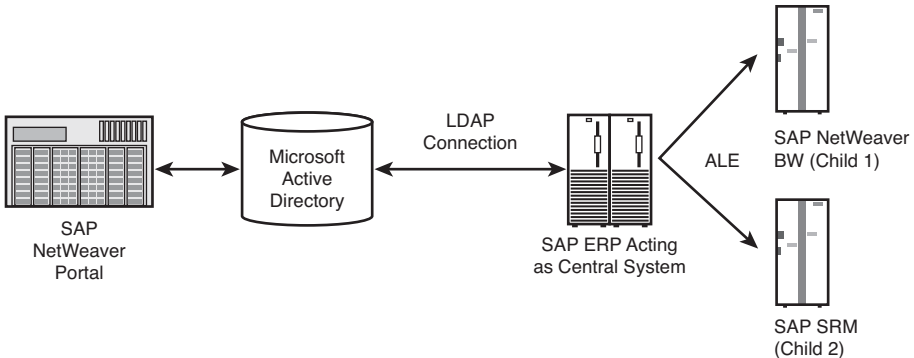

FIGURE 31.3 UME and CUA concepts may be combined to reduce redundant administration tasks.
Now that we have reviewed the UME and CUA, let's take a look at an example that utilizes both concepts. Figure 31.3 depicts a combined scenario for a Microsoft environment running multiple SAP products. The SAP Enterprise Portal UME is using Microsoft Active Directory (AD) as its persistence store. As a result, the users assigned in AD will be available in the portal to have appropriate roles assigned. At the same time, the SAP ERP system has been configured as the central system for CUA and for LDAP synchronization with the same Microsoft AD used by SAP Enterprise Portal. Finally, the SAP Business Warehouse (BW) and SAP Supplier Relationship Management (SRM) systems have been set up as child systems in the CUA landscape. As you can see, this provides a great advantage: The user accounts are in sync across all systems, because they rely on the same directory